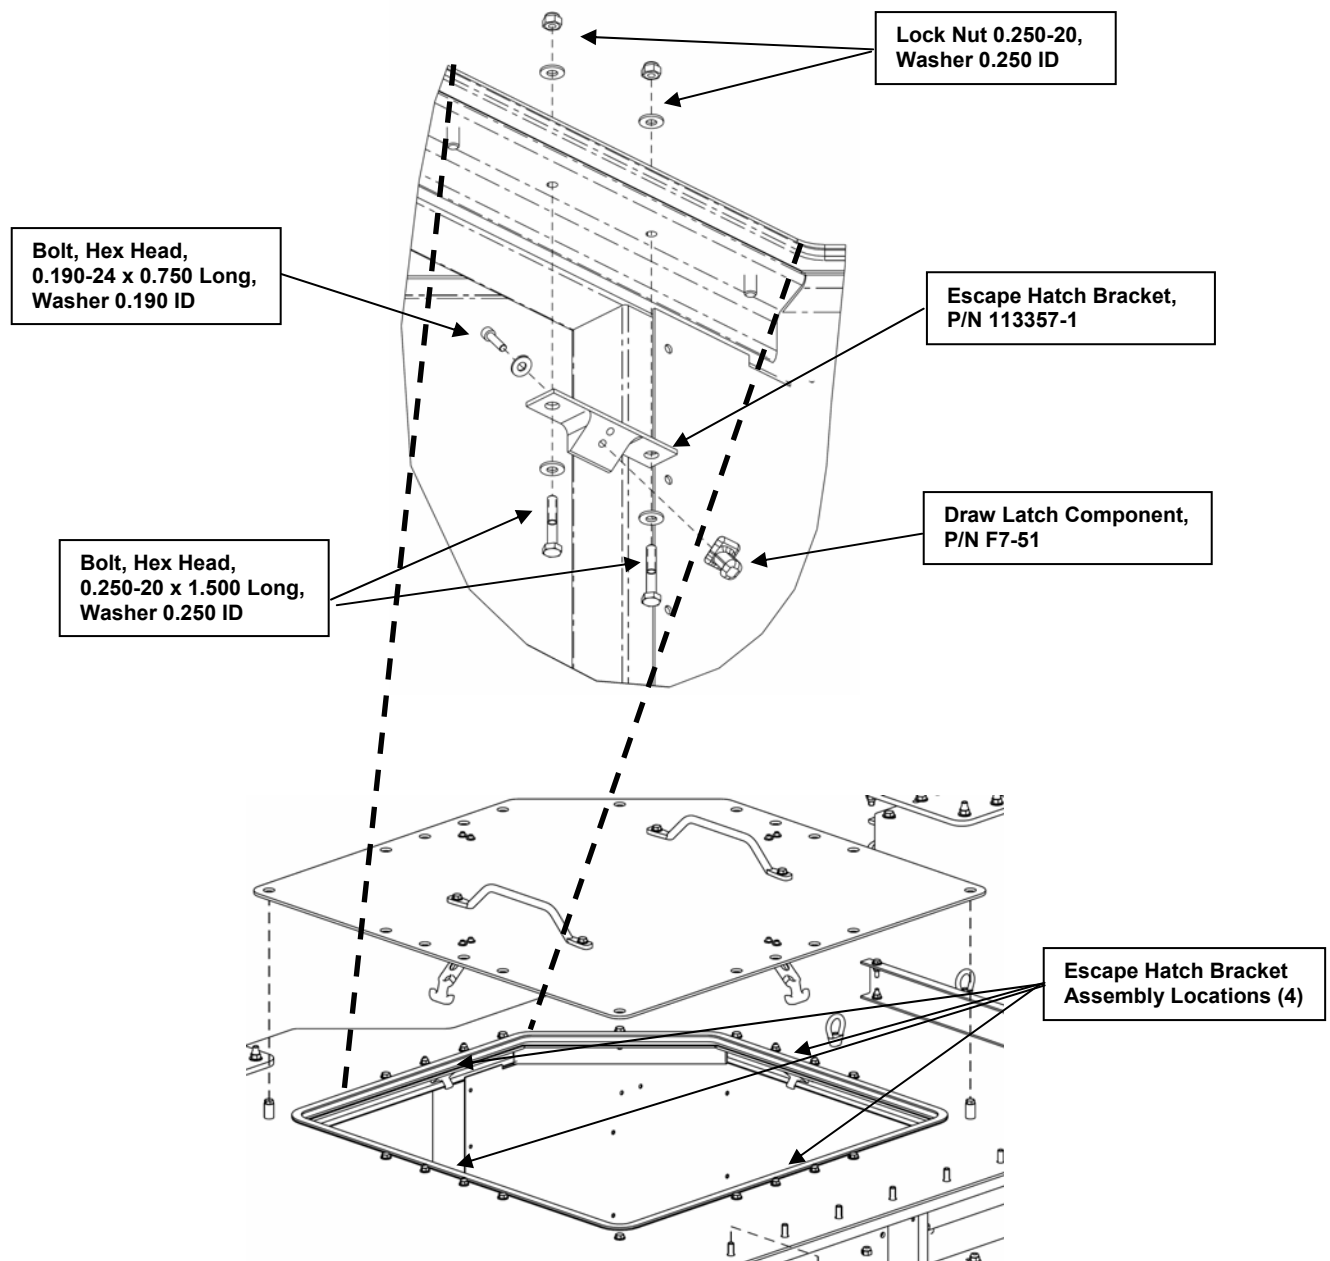

Figure 44. Installation of the Escape Hatch Brackets.
- j) Install the Draw Latch Component (P/N F7-51) shown in Figure 44 on each of the four Escape Hatch Brackets (P/N 113357-1) using 0.190-24 X 0.750-in.-long Hex Head Bolts and washers, as shown in Figure 44. Torque the fasteners to 3 ft-lb.
- k) Install the four Bracket Assemblies using the hardware shown, and in the locations shown, in Figure 44. Do not fully tighten the bolts at this time.